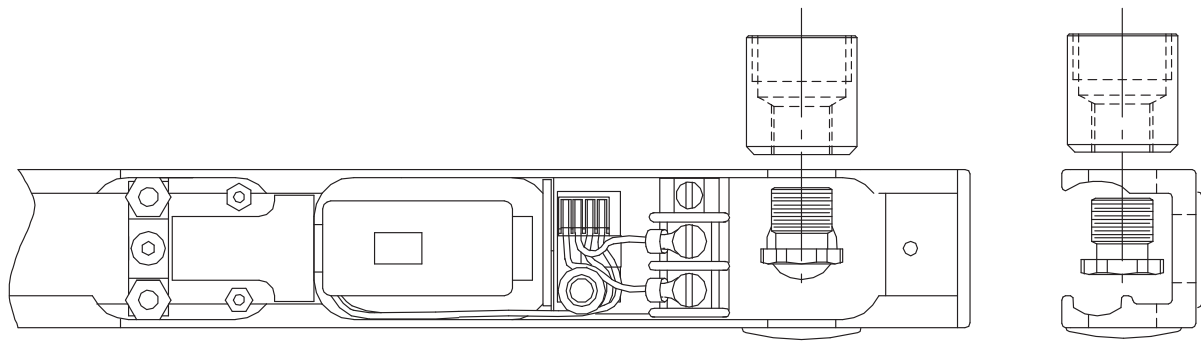
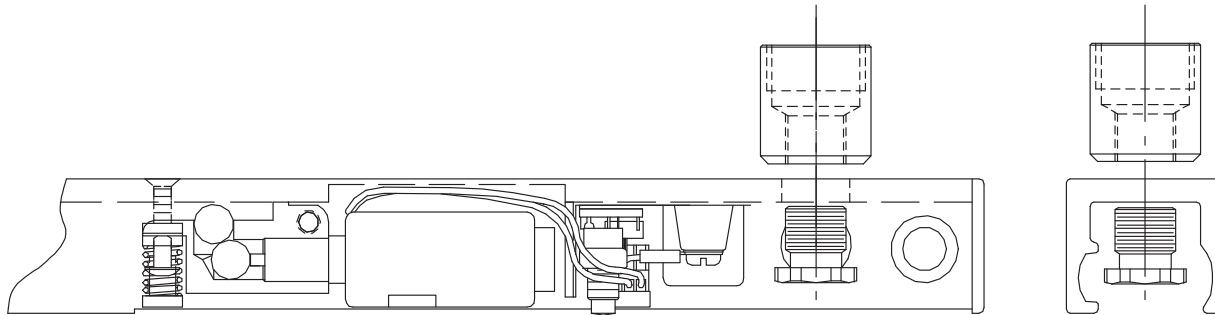

Fig. 1
Fig. 2
- 1c During step 3 on the closer installation instructions, make sure that the Conduit Connector is secured flush against the track surface. See option in Fig. 1 below that matches the mounting option selected for track surface. With the track mounted, take the Conduit Plug and slide it through the 1/2" hole in the track (see Fig.2). Tighten the Plug into the Conduit Connector using a 5/8" wrench, until completely secure, as shown in Fig.3.